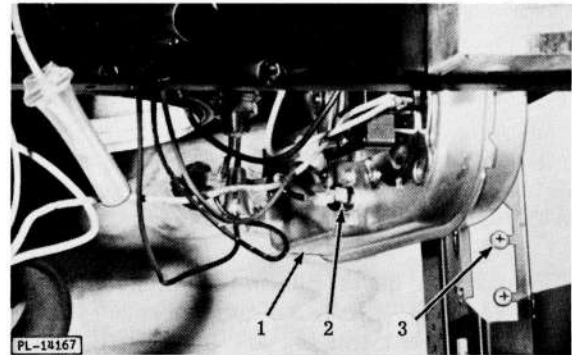

Fig. 26
To remove (See Fig. 26) (All except KD-58 models):
2. Loosen two mounting screws (3, Fig. 26) and swing assembly (1, Fig. 26) to the left to clear slots. Lower unit to withdraw beneath tank opening.
A. Dryer Thermal Protector (2, Fig. 26)
1. Remove dryer unit assembly (1, Fig. 26).
2. Remove two screws and lift off protector (2, Fig. 26).
1. Remove dryer unit assembly (1, Fig. 26). Note terminal location and replace in same location.